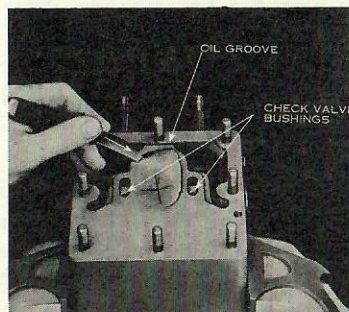

FIG. 29-1
6. Remove base and cut out gasket at gear pockets with sharp knife. Use sliding downward cut as shown in Fig. 29-1. Do not tap out gasket with hammer.
7. Cut strip out of gasket at oil groove. See Fig. 29-1.
8. Cut openings at check valve bushings as shown in Fig. 29-1.